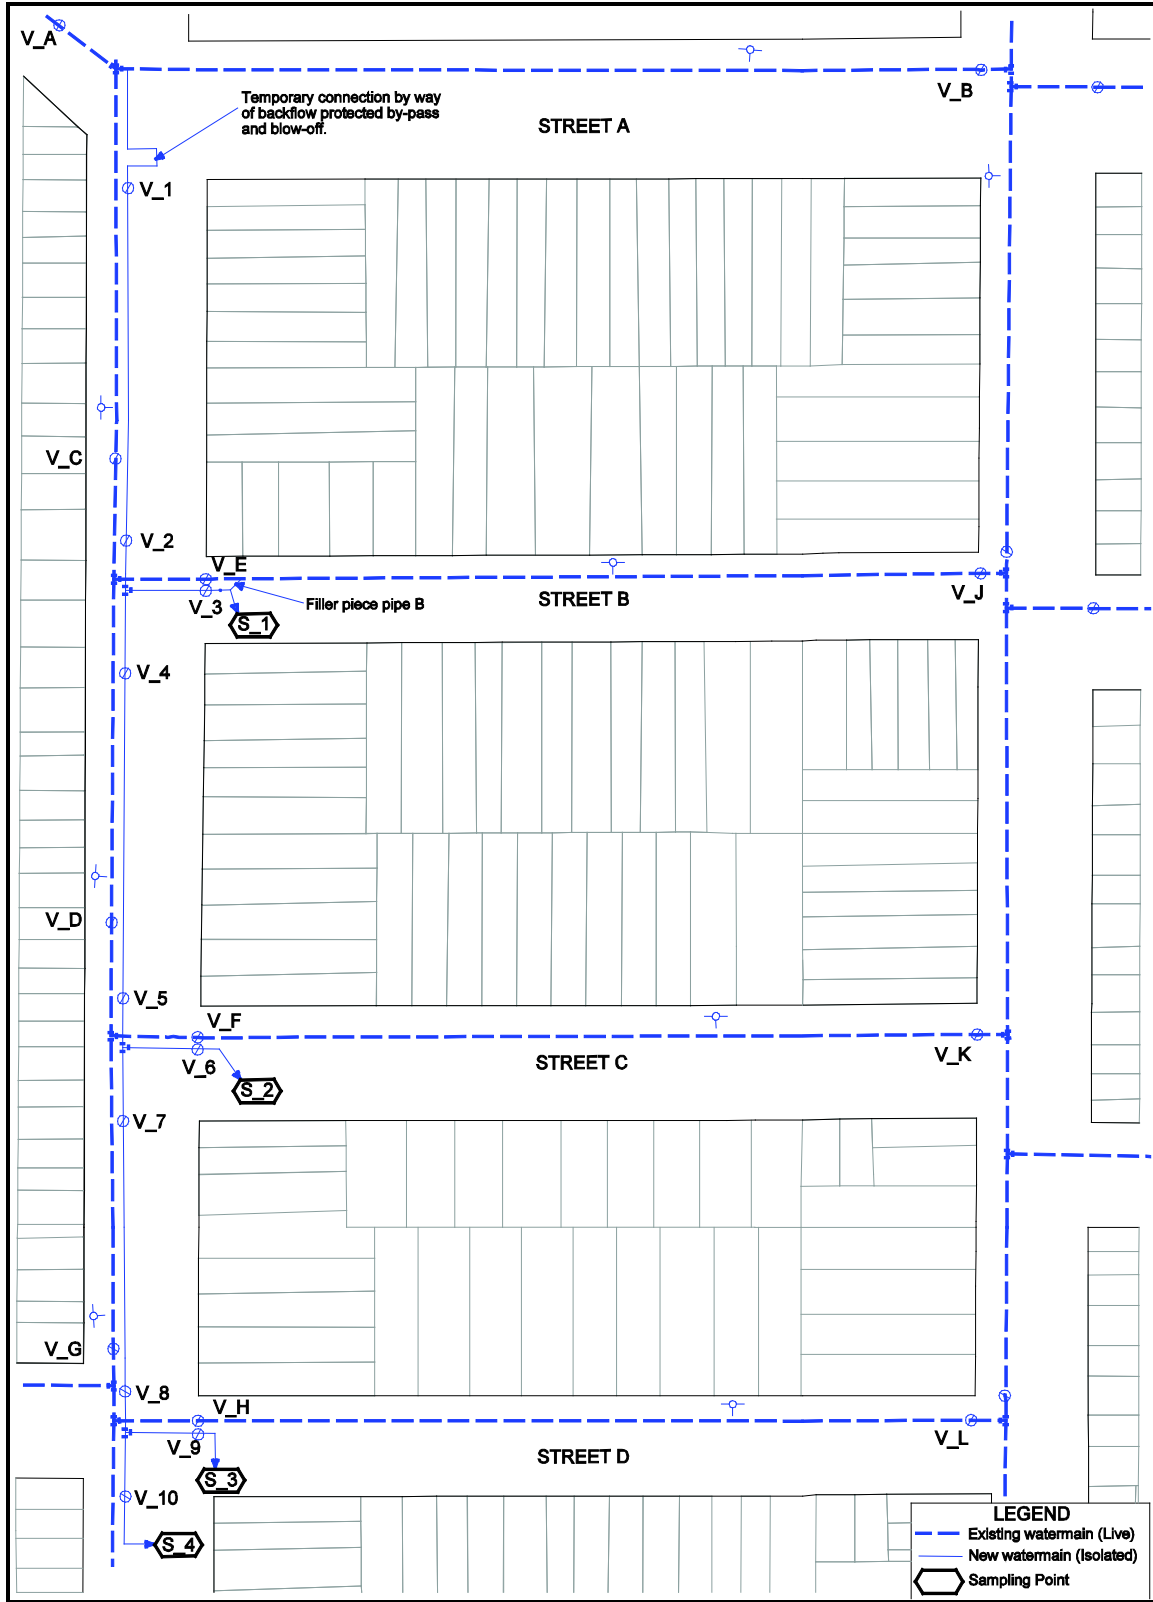
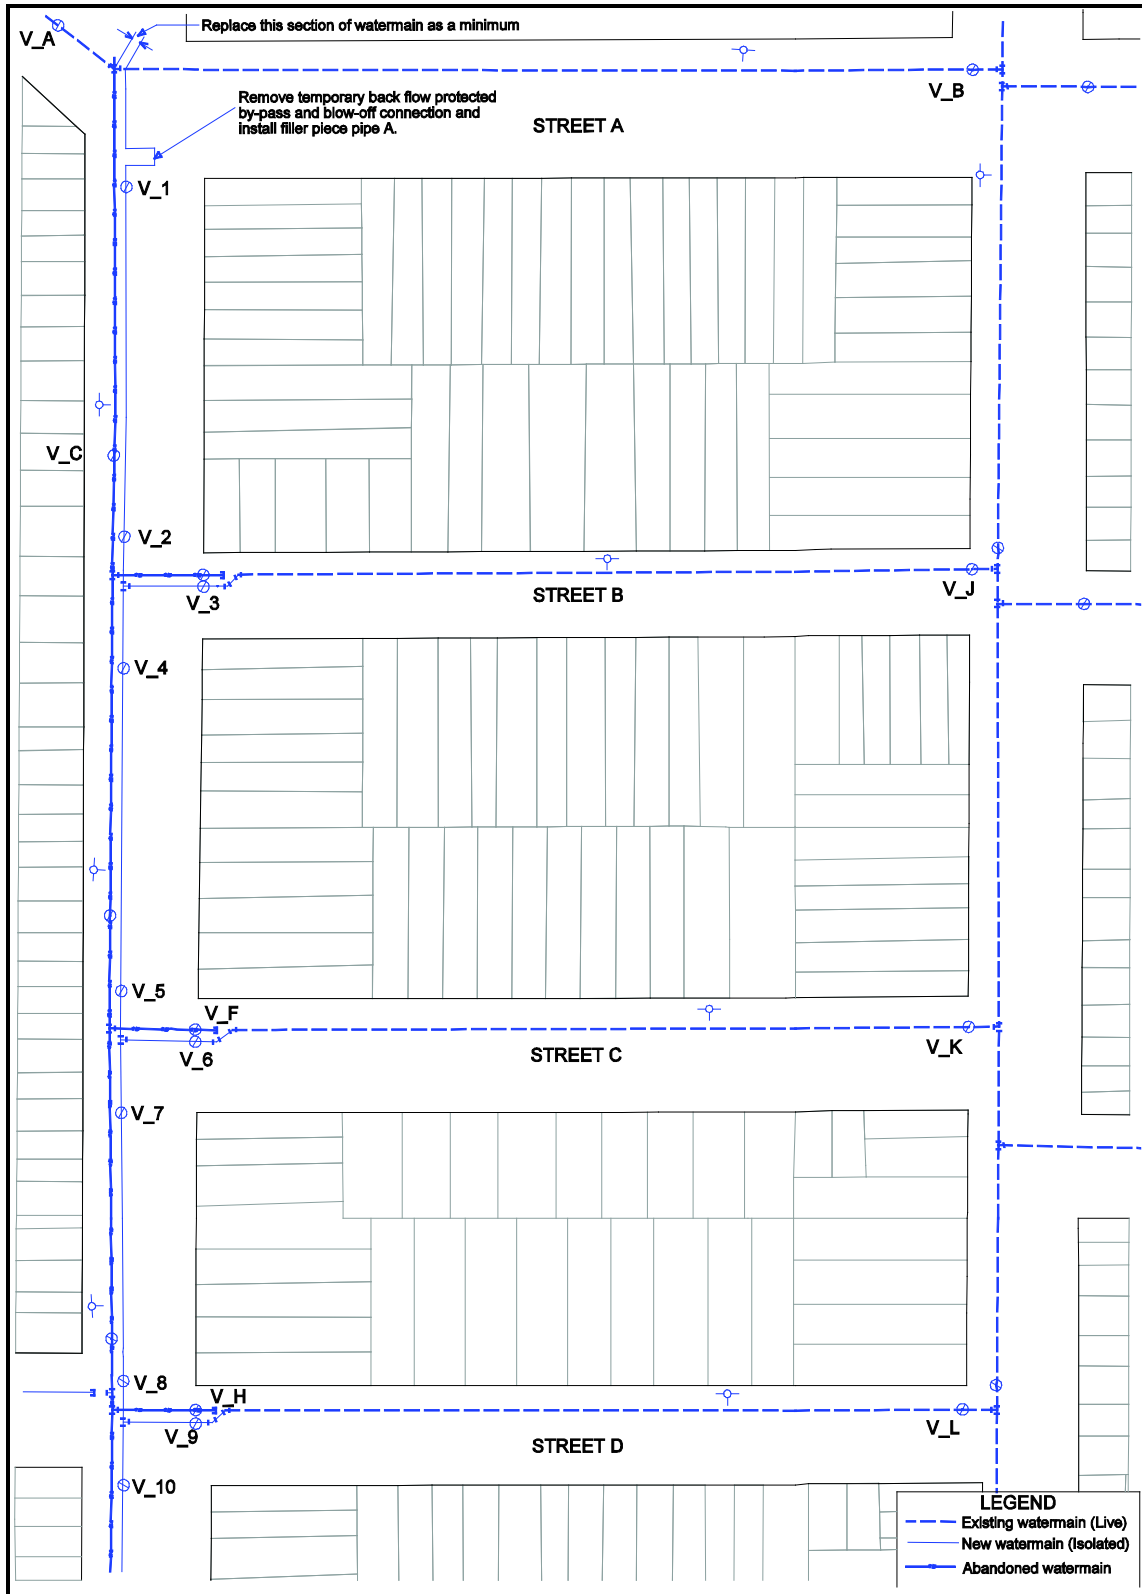

Figure 1: Scenario one – connecting to branch connections
Figure 2: Scenario two – connecting to source feeder watermain
The work involves the procedure for making watermain replacement and connection to an existing watermain system. All work shall be done to the satisfaction of the contract administrator. Instructions for making a connection are based on the scenarios in Figure 1 and Figure 2.
- 4 Take two consecutive samples at sampling stations S1, S2, S3 and S4 as shown on Figure 1 and as per *TS 7.30 Procedure for Disinfecting Watermains*.
The following is a typical procedure for the connection of a replacement watermain to an existing watermain on street B as shown of Figure 1.
Procedure for connecting new watermain system to existing watermain system. For this example the connection will be for a permanent connection on street A as shown in Figure 2.